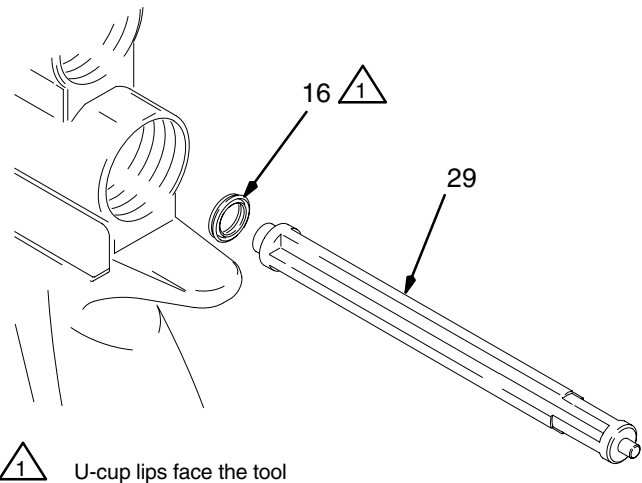
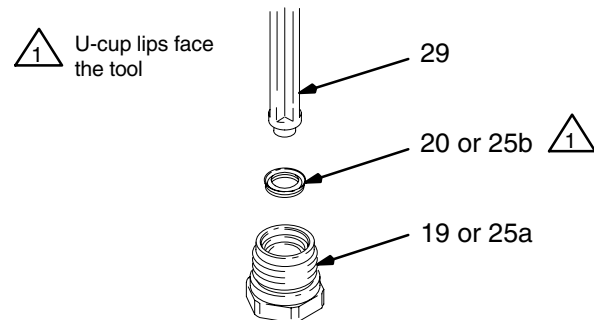

Fig. 30
Fig. 31
12. Insert the fluid needle (13) into the back of the insert (4) to install the fluid packings (5).
13. Tighten the packing screw (8) just enough to hold the packings (5) in the insert (4). The needle (13) must move freely. Remove the needle.
14. Unscrew the pattern adjustment valve assembly (25).
17. One at a time, install the new u-cup seals (25b) with the seal installation tool (25a); the u-cup lips must face toward the tool as shown in Fig. 31.
18. Push each u-cup seal (20) into the pattern adjustment nut (19) until a definite snap is felt.
22. Place the new u-cup (16) on the seal installation tool (29), with the u-cup lips facing the tool as shown in Fig. 30.
23. Push the packing (16) into the back of the gun until a definite snap is felt.
24. Remove the u-cup seal (20) from the fluid valve nut (19). Be careful not to damage the seal surface or the nut's internal threads.
25. Install the new u-cup seal (20) with the seal installation tool (29); the u-cup lips must face toward the tool as shown in Fig. 31. This will help apply even pressure to the u-cup lips and avoid damaging them.
26. Push the u-cup seal (20) into the fluid valve nut (19) until a definite snap is felt.